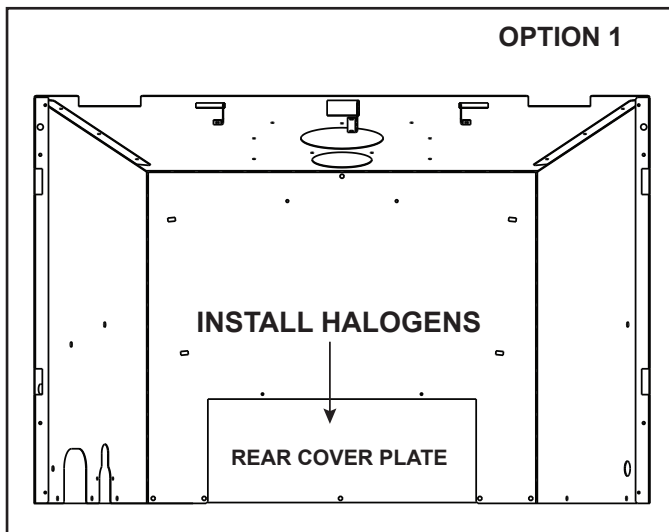

Figure 6.6 Cover Plate Removal (Option 1)
- Remove the five screws on the rear cover plate. See Figure 6.6.